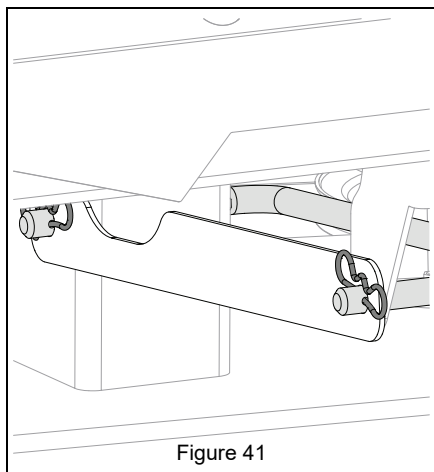

Figure 41
6. Remove bowtie pins and strap retaining drag link and remove drag link. See Figure 41.
3. Reinstall drag link through frame and mower deck. Secure with original strap and bowtie pins. See Figure 41.